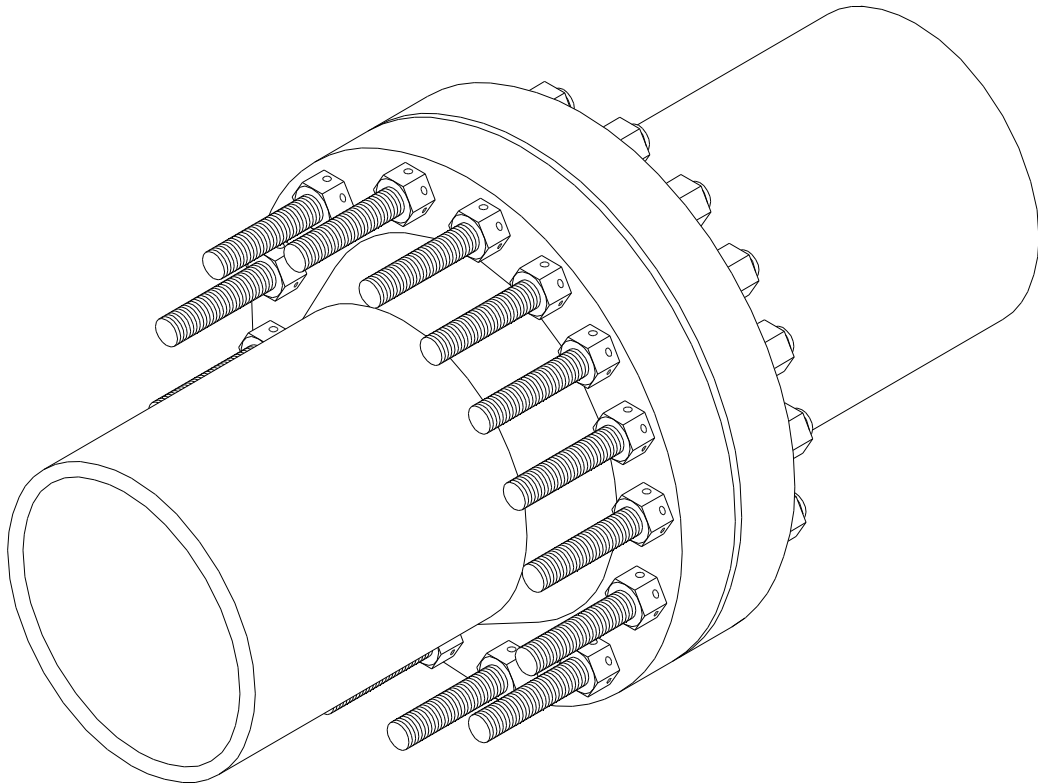

FIG 4B : STUDBOLT INSTALLATION FOR 50% TENSIONER COVERAGE
b) STUDBOLT INSTALLATION FOR 50% TENSIONER COVERAGE (Fig 4B)
This method of installation is normally used where studbolts are required to be tensioned from one side of the flange only, due to an access restriction on the opposite. It is basically a two stage tensioning operation where 50% of the studbolts are tensioned in the first stage, followed by the remaining 50% of studbolts in the second stage. In order to adopt this method the studbolts must be assembled with the protrusions on the same side of the flange as illustrated in Fig 4B. It is generally a more time and effort consuming method.